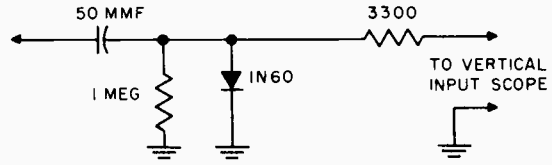

Fig. 4. FM Detector Ckt.
2. Couple scope to set through detector circuit of Fig. 4, as required in chart.